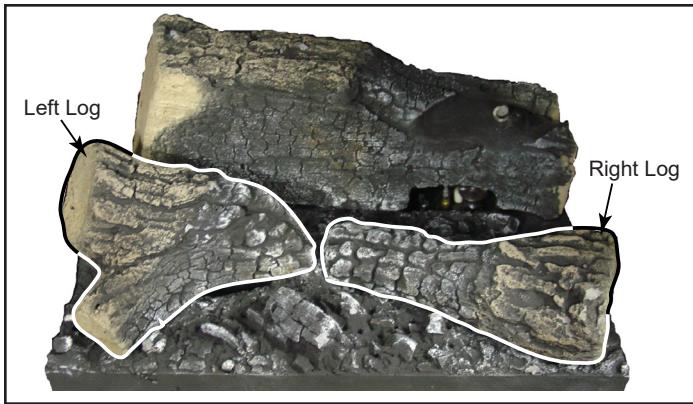

Figure 3.28 - Front Logs
3. Install the left log by mating the hole on the bottom of the log with the pin in the ember bed, Figure 3.28. Position the log over air hole in ember bed.
4. Install the right log by mating the notch on the bottom of the log with the raised notch on the ember bed, Figure 3.28. Position the log over air hole in ember bed.